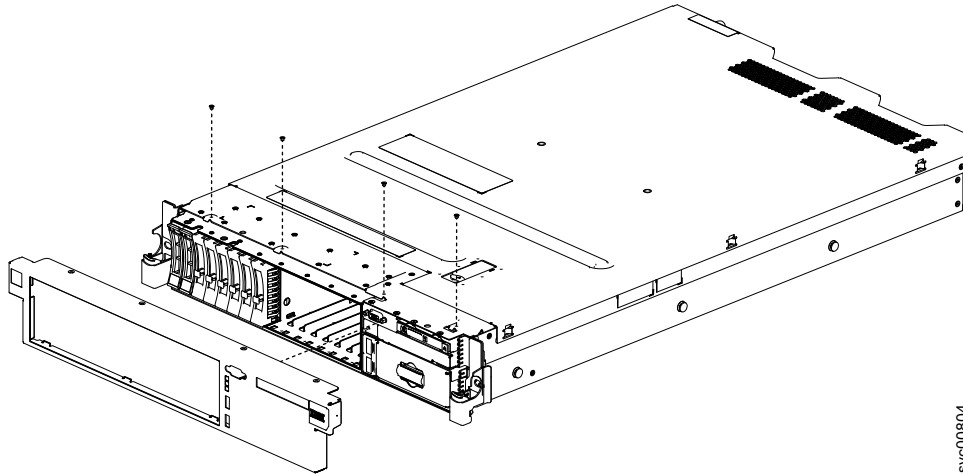

Figure 89. Removing the 2145-DH8 bezel
7. Remove the screws on the top of the bezel, and lift the tabs on the bottom of the bezel out of the slots on the underside of the chassis, as shown in Figure 89.